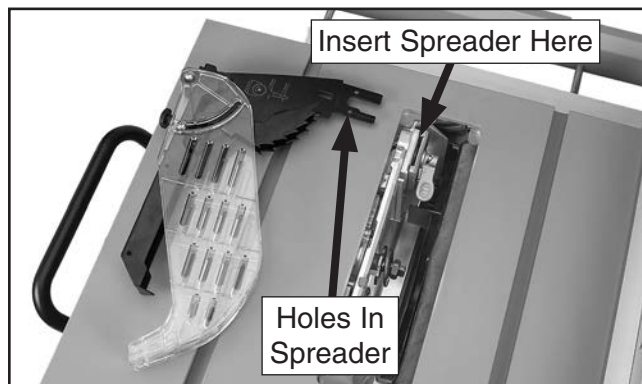

Figure 15. Spreader mounting location.
4. Insert blade guard/spreader into spreader/riving knife clamp (see **Figure 15**). Ensure holes in spreader align with bumps inside clamp.